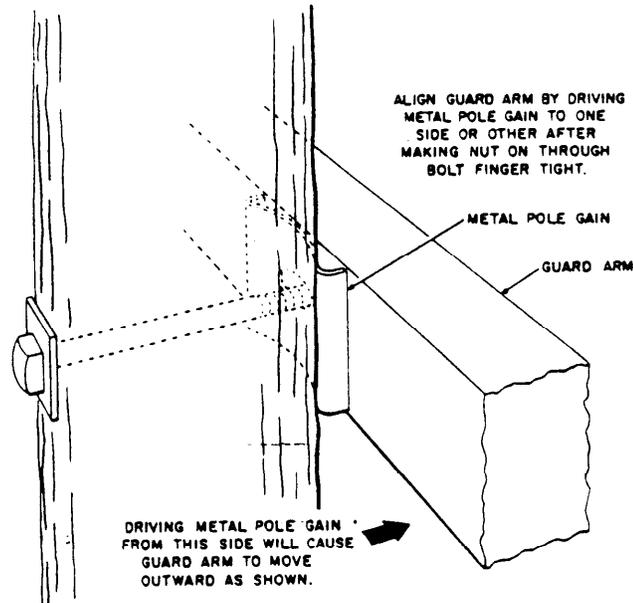

Fig. 6-Metal Pole Gain Installed
- 3.06 A metal pole gain installed as shown in Fig. 6 may be used to avoid the necessity of cutting a gain in the pole.